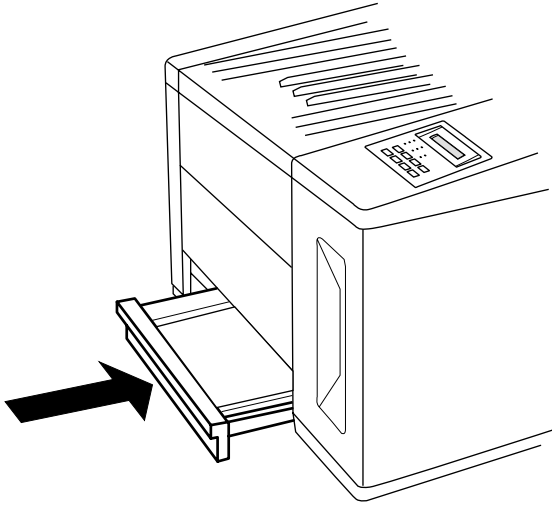

Fig. 2.33 *Slide the Cassette into the Printer*
7. Slide the filled cassette into the printer (fig. 2.33) until it snaps firmly into place and is flush with the front of the printer.